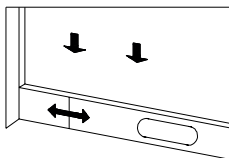
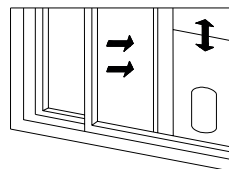

Fig. 2
Fig. 3
- Half open the window and mount the window sealing plate assembly to the window (as shown in Fig.2 and Fig. 3).Components can be placed in horizontal and vertical direction.